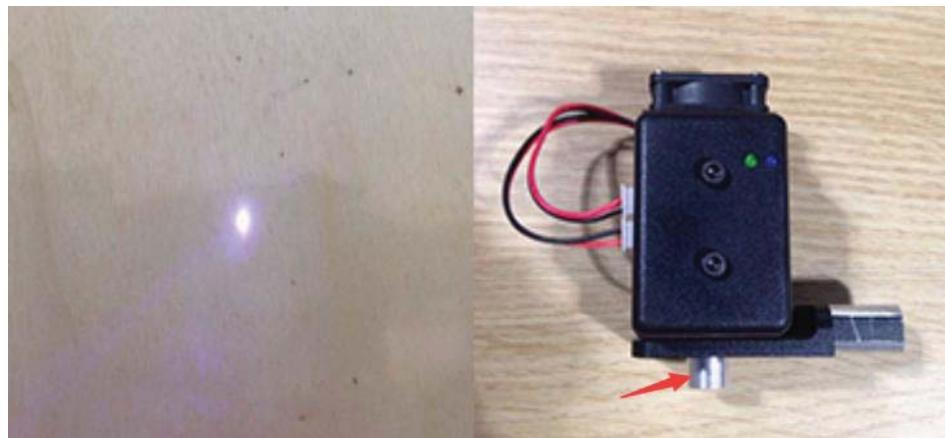

Figure 5.99 Adjust the focus
- If you cannot set the laser to be at its minimum focus, it's probably because the focal length is long. To shorten the focal length, slightly turn the silver lens screw (as shown in Figure 5.99) on the bottom of the laser kit.